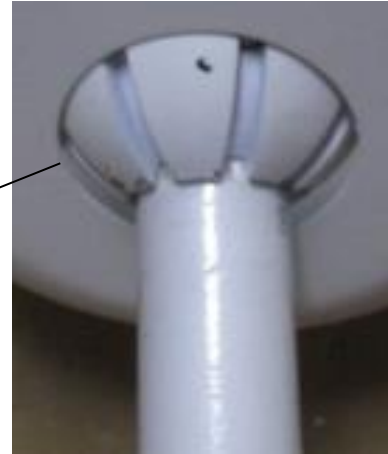

Fig. 7B
**NOTE: Please be aware of that the fan head can be oscillating 60°. There are key slots (Fig.7B) provided on the hanger ball which allow you to adjust the direction of the fan according to your requirement.**